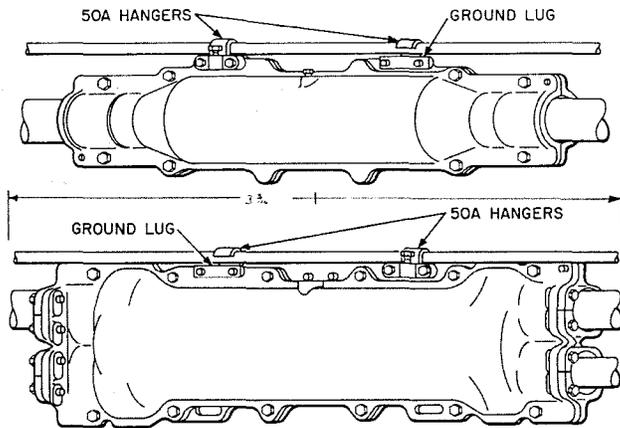

Fig. 29—Strand Attachment Using 50A Hangers
3.33 The 50A hanger may be fastened to the splice case while on the ground, one hanger to each splice case. Position the P-18A920 clamp under the keeper, insert the 1-1/2 inch long capscrews through the holes in the P-18A919 keeper, through the holes in the flange of the splice case, and into the holes in the ground lug. Tighten these bolts (Fig. 29).